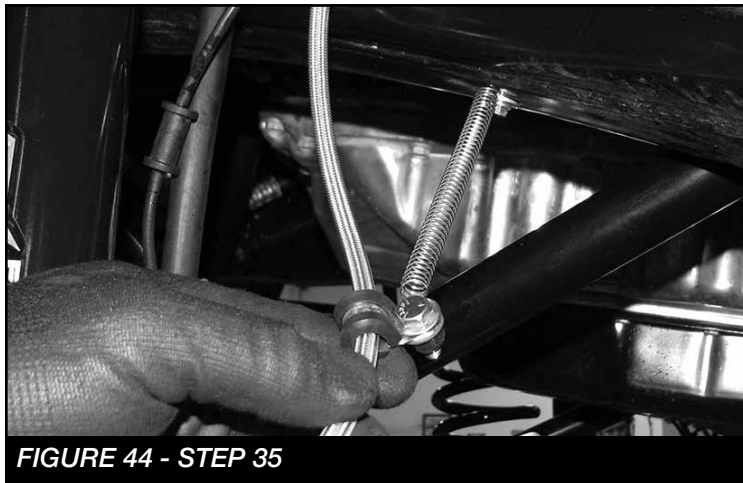

FIGURE 44 - STEP 36
36. Mount the opposite end of the spring to the frame using the supplied TEK screw and washer. **SEE FIGURE 44**